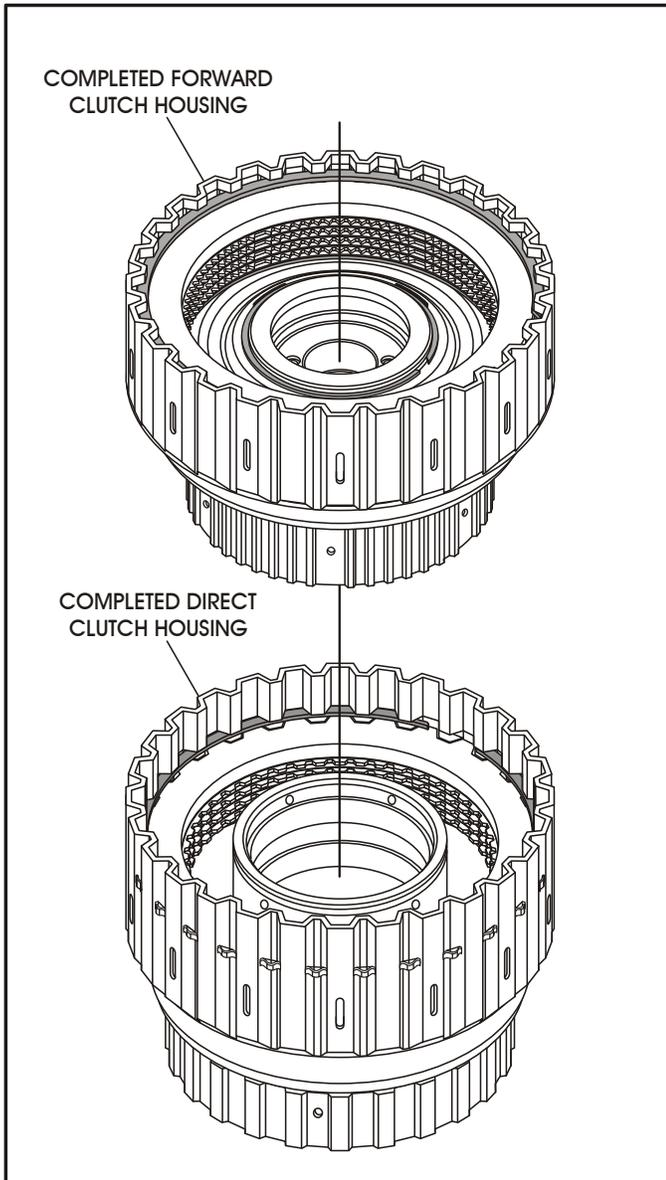

Figure 145
1. Place the completed direct clutch housing on a flat work surface, as shown in Figure 145.
2. Install the completed forward clutch housing assembly, as shown in Figure 145, by rotating back and forth until fully seated and all direct clutch plates engaged on hub.